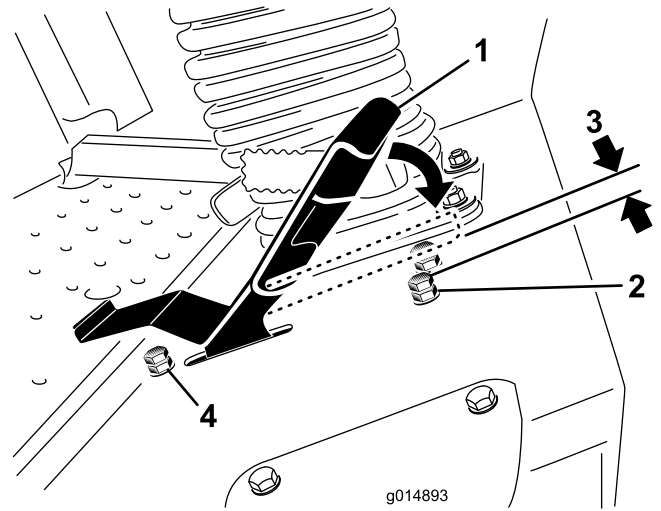

Figure 50
3. Loosen the jam nut on the stop bolt for the traction pedal (Figure 50).